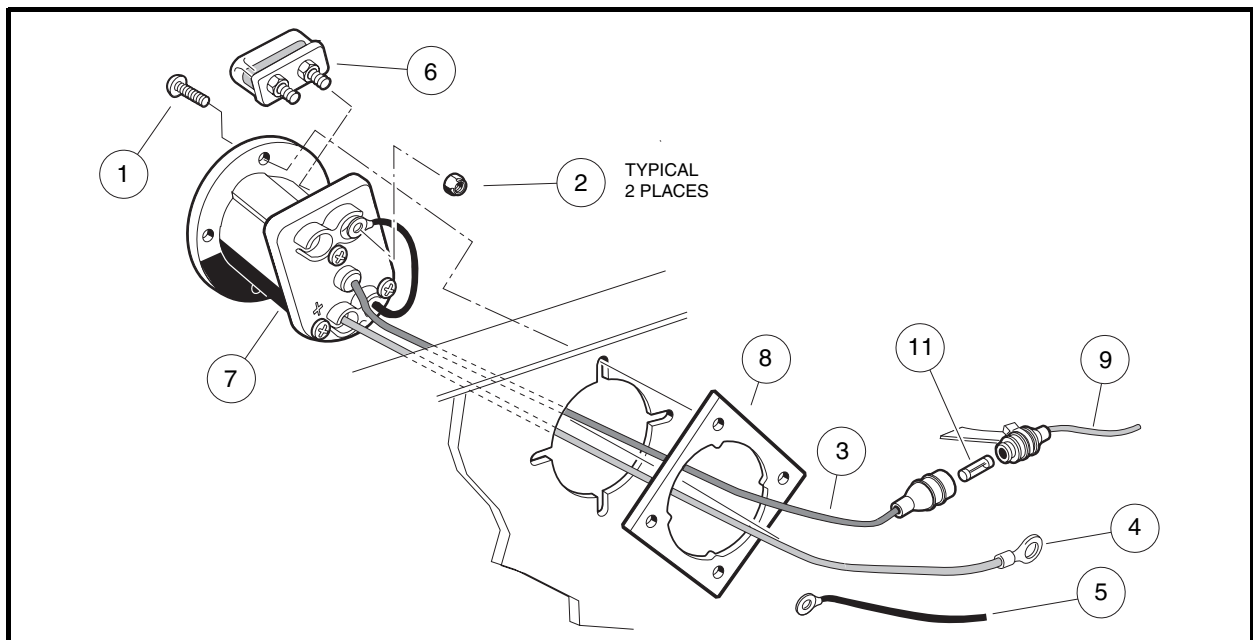

Figure 19-9 Charger Receptacle
2. Remove the 10-gauge red wire (4) from the positive post of battery no. 1 (**Figure 19-9, Page 19-11**).
3. Remove black 10-gauge OBC wire (5) from charger receptacle.
4. Disconnect the gray wire (9) from the receptacle at the yellow fuse holder.
5. Remove the four screws (1) that secure the charger receptacle bezel (7) to the receptacle backing plate (8) and to the vehicle body.
1. Insert the 10-gauge red wire (4) and the 18-gauge gray wire (3) through the hole in the vehicle body and the receptacle backing plate (**Figure 19-9, Page 19-11**).
3. Install the four screws (1) that secure the receptacle to the vehicle body and receptacle backing plate (8). Tighten screws to 16 in-lb (1.8 N·m).
4. Connect 18-gauge gray wire (9) to yellow fuse holder. Make sure fuse (11) is installed in fuse holder.
5. Connect the 10-gauge black wire (5) to the receptacle fuse link (6) on the charger receptacle (**Figure 19-9, Page 19-11**). Tighten to 23 in-lb (2.6 N·m).
6. Connect the 10-gauge red wire (4) to the positive post of battery no. 1.
The fuse link on the 48-volt electric vehicle should not blow under normal operating conditions; however, if the fuse link has blown, the vehicle will not charge and the fuse must be replaced. The fuse link (6) is mounted on top of the charger receptacle in the battery compartment (**Figure 19-9, Page 19-11**).
1. Remove the fuse link (6) from the charger receptacle (7) by removing the two nuts and washers used to secure the 10-gauge black wire from the computer (5) and the 10-gauge black wire to the receptacle (**Figure 19-9, Page 19-11**).
2. Remove the fuse link (6) from the charger receptacle.
3. Install nuts (2) on fuse link mounting posts and tighten to 23 in-lb (2.6 N·m) (**Figure 19-9, Page 19-11**).